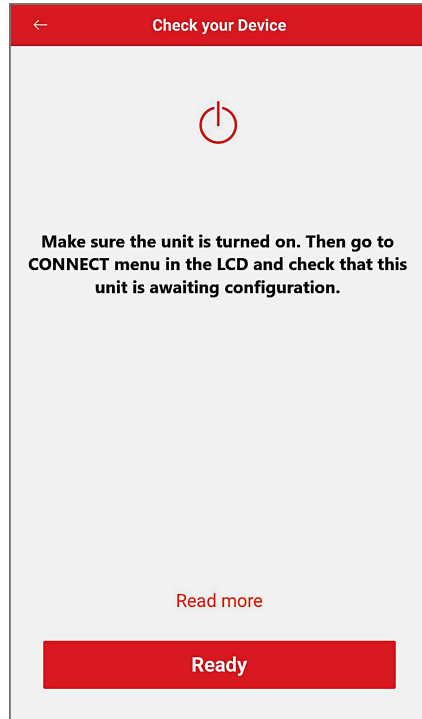

Figure 82. Check your Device
- "Check your Device" screen will appear. Ensure to have AVIA heater powered and Wi-Fi signal available in the area, then press "Ready" button. See **Figure 82**.